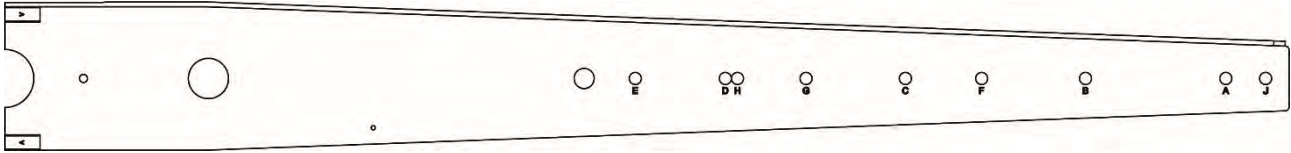

FIGURE 7 – Beam Location Holes
1. The beam has many location holes for the hangers, see figure 7. The required location depends on the torque required & the weights used. Use the following table to determine the hanger location.